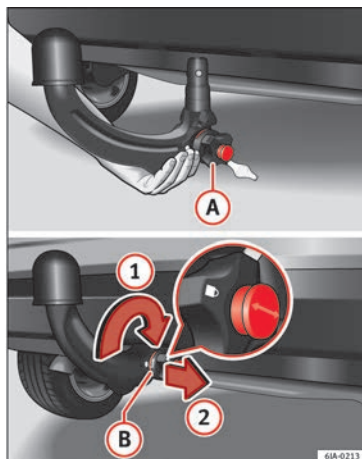

Fig. 198 Placing the ball-headed bar/locking and removing the key.
- Hold the ball-headed bar from underneath » **Fig. 198** and push it into the clamping bush as far as possible until you hear it click into place » **A**.